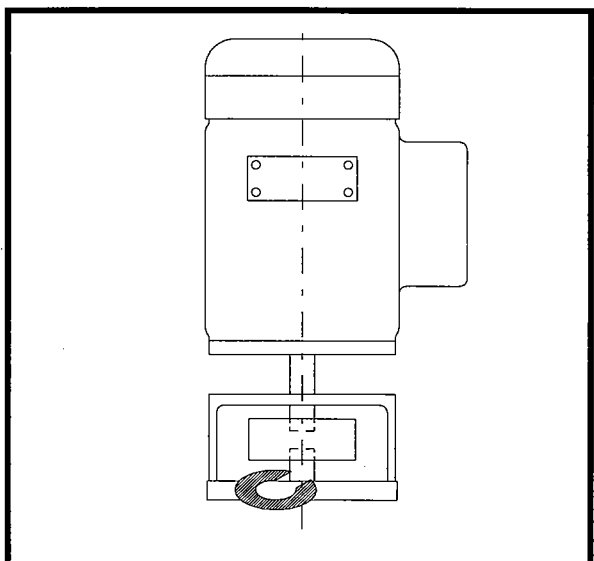

Fig 3 Procedure for setting the pump stack height. Be sure that the coupling halves have an even spacing from side to side and top to bottom
5. Place the blue plastic spacer (supplied with the pump) between the bottom of the drive adapter and the base plate of the motor adapter casting. You will probably need to lift up on the pump shaft slightly to do this. (See Figure 3)